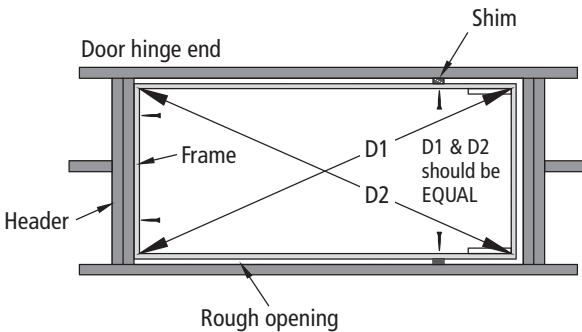

FIGURE 6
F. Make sure frame on door hinge side of ladder is pushed up against header and is centered side to side in rough opening. Temporarily secure frame to header using two 2 1/2" deck screws (Figure 6). Do not use pre-drilled holes for deck screws. Pre-drilled holes are used in Step 2.
G. Carefully open attic ladder door but do not unfold the climbing section until indicated in step 3. Center and square the opposite side of attic ladder frame in the rough opening using shims. Ensure ladder frame is square by measuring diagonals of the frame within 1/8" (Figure 6).
H. Secure sides of ladder frame to ceiling joists with 2 1/2" deck screws at shim locations (Figure 6). Do not use pre-drilled holes for deck screws. Pre-drilled holes are used in Step 2.